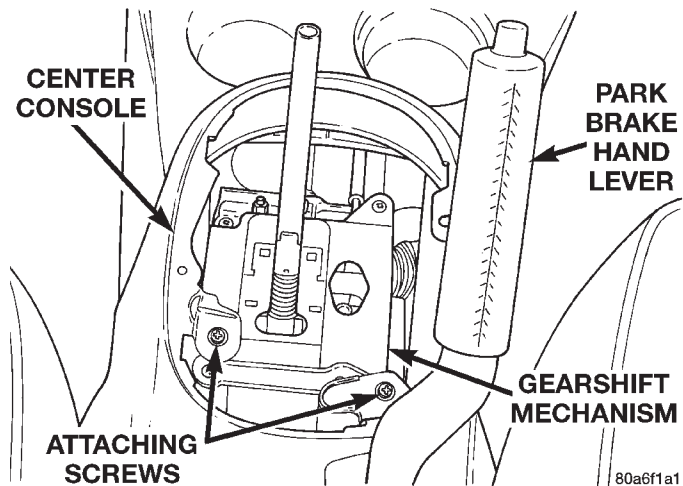
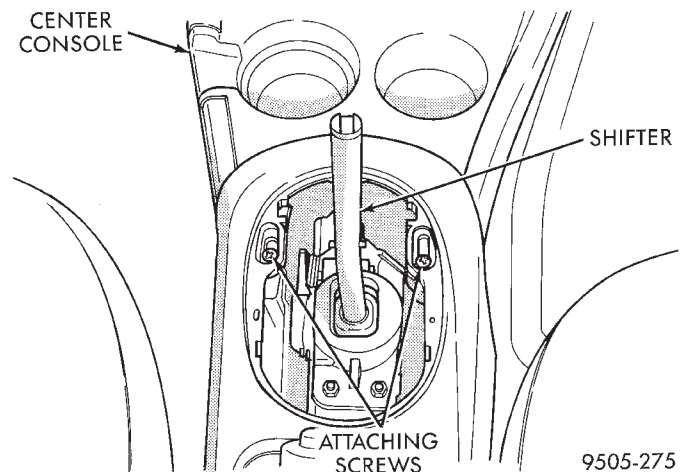
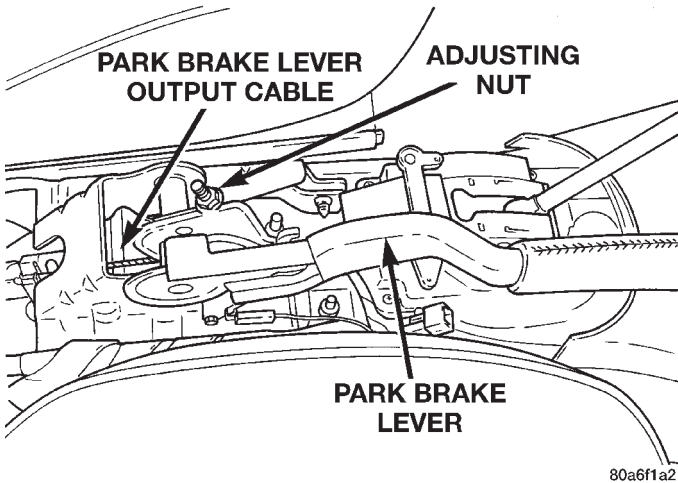

Fig. 132 Center Console Front Attaching Screws (Automatic)
Fig. 133 Center Console Front Attaching Screws (Manual)
Fig. 134 Park Brake Lever Output Cable Adjustment Nut
(4) Remove the 2 screws attaching the front of the center console to the gear selector or shifter (Fig. 132) or (Fig. 133).
(5) Raise the park brake hand lever to approximately the half way point of its total travel. This will allow for the required clearance to remove the center console.
(6) Remove the center console/arm rest from the vehicle.
(7) Lower park brake lever handle.
(8) Loosen adjusting nut (Fig. 134) on park brake lever output cable. This will take tension off output cable, allowing it to be easily removed from tension equalizer.
(7) Check the rear wheels of the vehicle with the park brake lever fully released, they should rotate freely without dragging.
(8) After the park brake cable tension has been properly adjusted, check for free play in park brake lever. Park brake hand lever should feel firm at all clicks, with a maximum of 22 clicks of lever travel possible.
(9) Install the center console back in the vehicle.
(10) Install the 2 screws attaching the front of the center console to the forward console (Fig. 132) (Fig. 133).